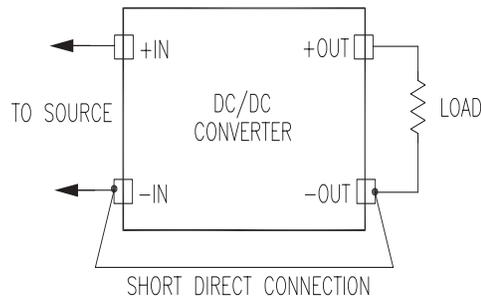

FIGURE 4a.
1. Tie the ground connection directly between the I/O pins with no intervening wiring length that will add inductance (see Figure 4a).